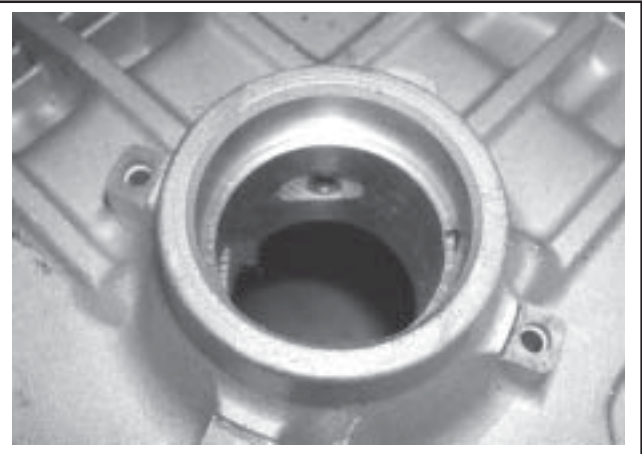

Figure 11-1. Seal Bore of Crankcase.
1. Make sure that the seal bore of the crankcase is clean and free of any nicks or burrs. See Figure 11-1.